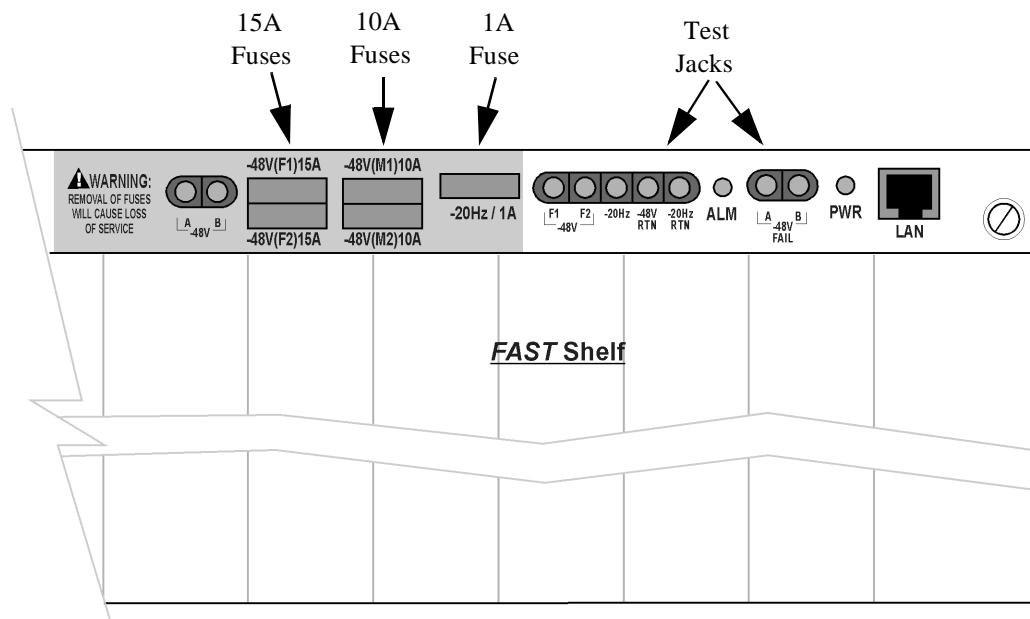

Figure 8. J1C282AC-1 FAST Shelf Fusing
- C I \_\_\_\_  *Step 2:* Remove the fuses from the *FAST shelf*. See Figure 8.